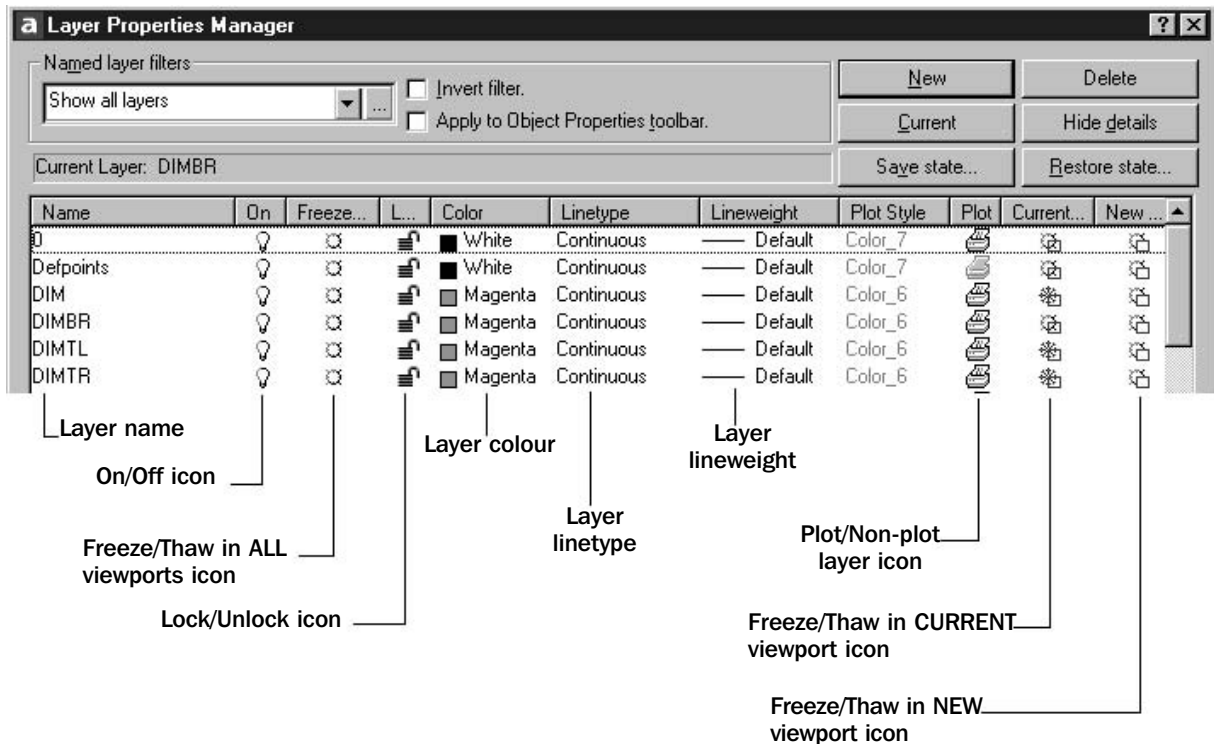

Figure 25.2 The Layer Properties Manager dialogue box with layer state descriptions.
- 4 Figure 25.2 displays the Layer Properties Manager dialogue box layers icons and names and: